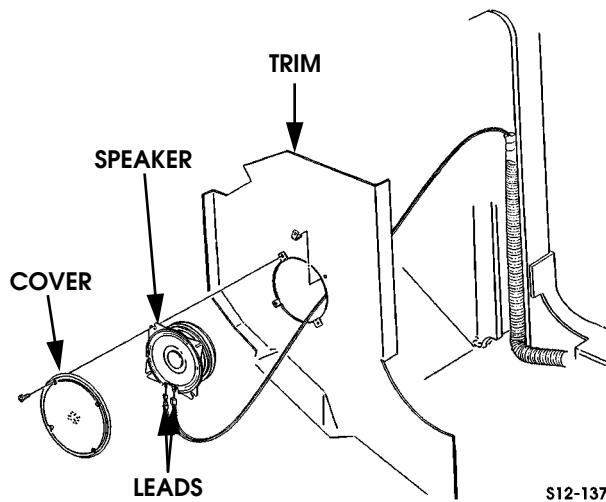

Figure 12-113: Front Speaker Mounting
3. Remove four screws, clips, cover, and right front speaker from trim (Figure 12-113).
7. Connect two leads to right front speaker (Figure 12-113).